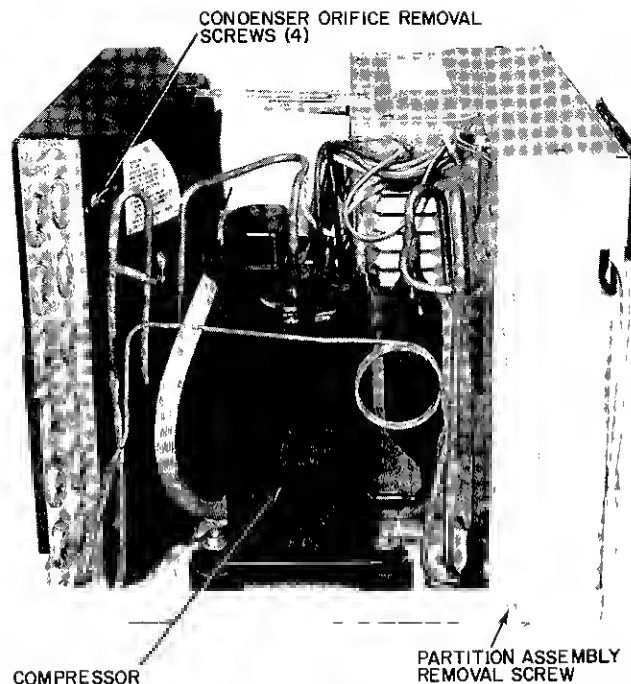

**Fig 15 — Partition and Orifice Assembly Screws**
- c Remove condenser orifice by removing 4 screws holding condenser orifice to the tube sheet as shown in Fig 15 and 18.
- c Remove 2 side screws fastening partition assembly to basepan and partition assembly to evaporator coil tube sheet. See Fig 15.
- d Remove 2 back screws which hold partition assembly to basepan. See Fig 15.
- f Remove 4 screws which fasten condenser orifice to tube sheet. See Fig. 15 and 18